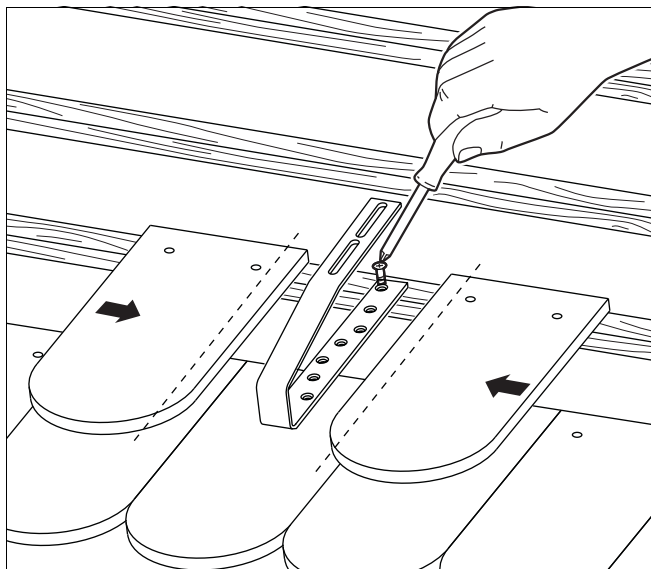

Fig. 25 Cut crown tile and install special additional roof hooks (accessories)
- Install the special additional roof hooks (accessories: conditions of use see Chapter 6.2.2 "Attaching additional roof hooks (accessories)", page 22) centrally on the crown tiles with the included screws (Fig. 25).
- Cut the adjacent crown tile (Fig. 25, dashed line).